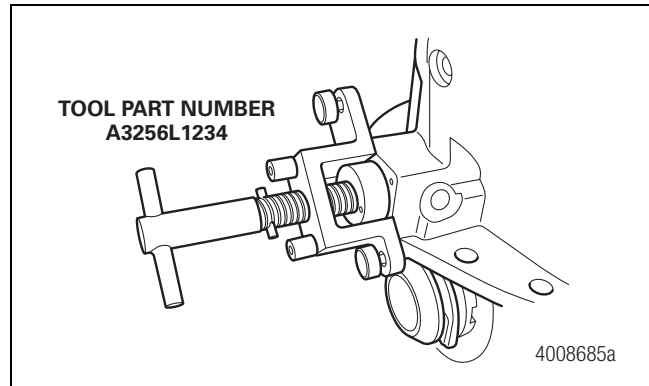

Figure 11
- Tighten the tool handle down until it bottoms to compress the spring. When the spring is compressed below the fork, pull the fork out with the shift collar. Figure 11.